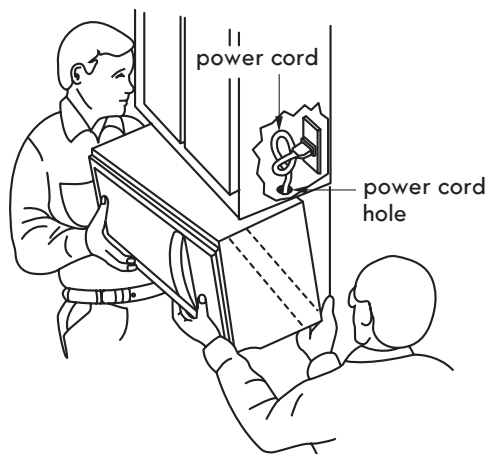

Figure 30
1. Carefully lift microwave oven and hang it on support tabs (See Figure 26) at the bottom of the mounting plate. Reaching through upper cabinet, thread power supply cord through the power supply cord hole in the bottom of the upper cabinet. See Figure 30.